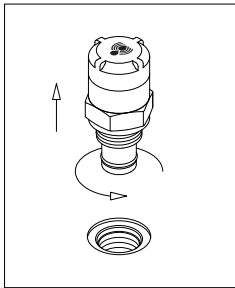

fig. 6
- (Fig. 6) Unscrew the indicator body
- (Fig. 14) Replace the O-rings of the indicator body. For the mounting/dismounting of the indicator, please refer to the paragraph “Clogging indicator replacement” above (Fig. 6÷7)